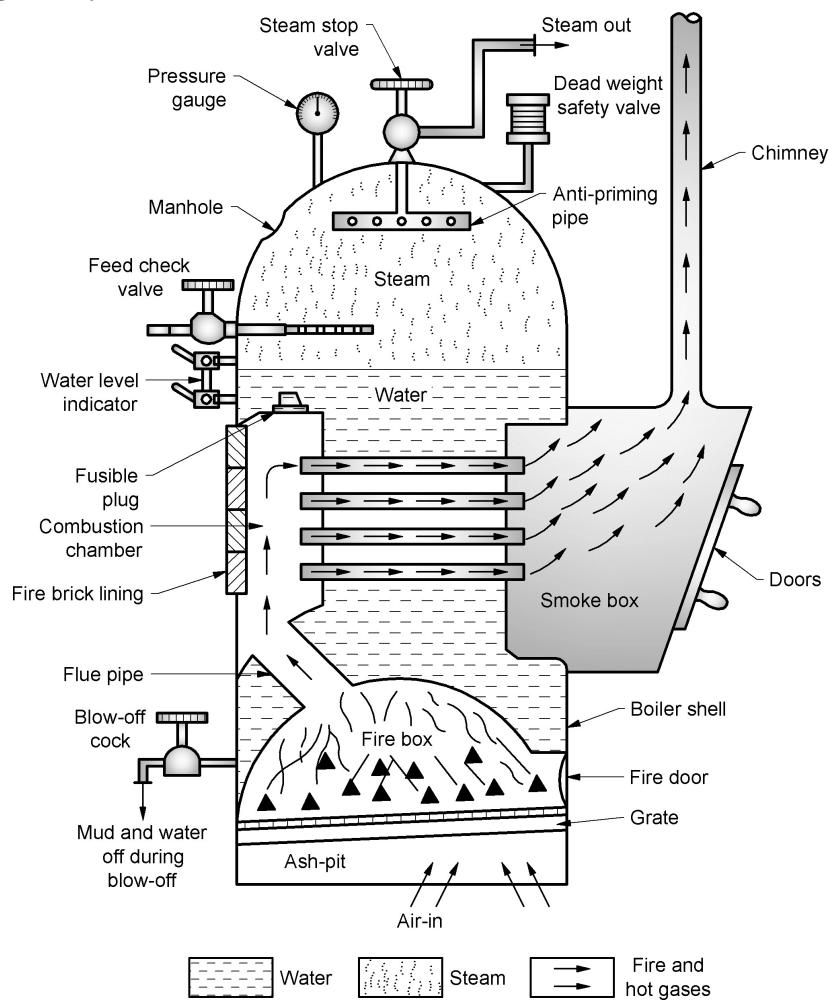

Fig. 1.3 Cochran Boiler
- (1) It consists of a cylindrical shell with its crown having hemispherical shape as shown in Fig. 1.3. The furnace is also hemispherical in shape. The hemispherical crown of the boiler shell gives maximum space and strength to withstand the pressure of steam inside the boiler.
- (2) The hemispherical shape of the furnace can withstand intense heat and permits maximum absorption of radiant heat. The grate is placed at the bottom of the furnace and the ash pit is located below the grate.
- (3) The coal is fed to the grate through the fire door and ash formed is collected in the ash pit located just below the grate. The furnace is connected to the combustion chamber by a flue pipe. The back of the combustion chamber is lined with fire bricks.
- (4) About 160 to 170 fire tubes (generally 6.25 cm in diameter) are placed horizontally and these connect the combustion chamber and the smoke box.
- (5) A man hole is provided at the top of the shell for cleaning. Number of hand holes are also provided around the outer shell for cleaning purpose. Smoke box is provided with doors for cleaning of the interior of fire tubes.
- (6) Various mountings like pressure gauge, water level indicator, safety valve, fusible plug, blow off cock, steam stop valve and feed check valve are provided for proper functioning of the boiler.